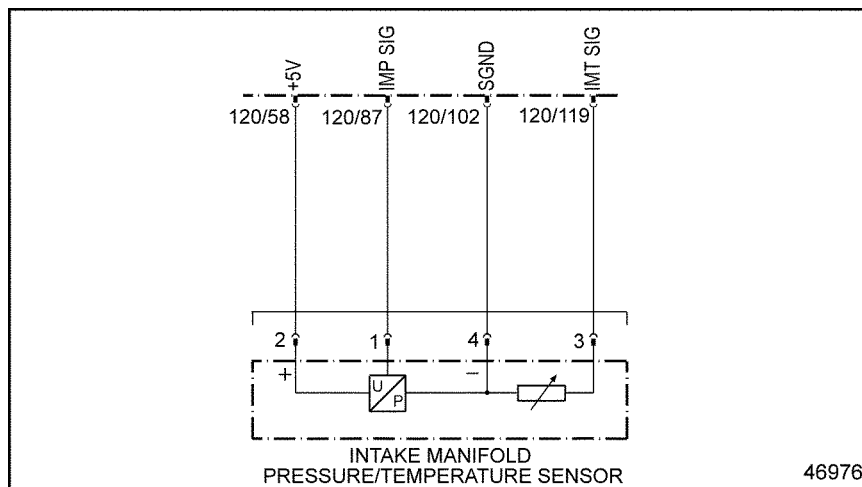

Figure 40-2 Intake Manifold Pressure/Temp Sensor Wiring
- [b] If the voltage is less than 2.75 volts, repair the open between pin 3 of the Intake Manifold Pressure/Temp Sensor and pin 119 of the 120-pin MCM connector. See Figure 40-2. Refer to section 40.3.1.1.